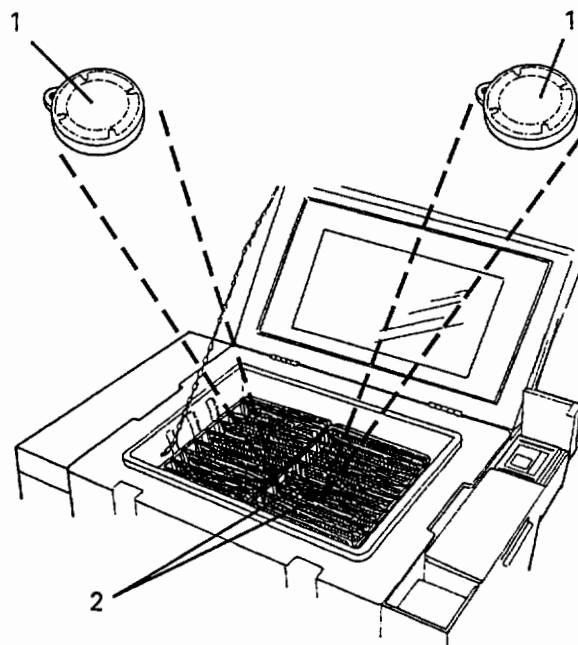

Figure 3-21 — Packing Sequence
337. When the blood is fully packed, take two data loggers (1), check the green LED is flashing, this shows the data logger has been activated (do not use if not activated) (Fig 3-21).
338. Insert two data loggers, one in each basket (1) into the centre of the unit (2) resting directly against the units of blood (Fig 3-21).